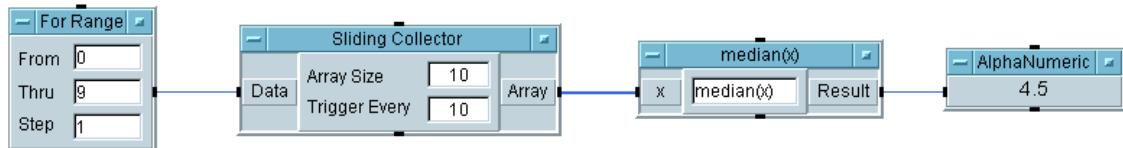

Figure 2-16. Connecting Data Objects
5. Add an AlphaNumeric object, by selecting Display \Rightarrow AlphaNumeric. Connect the objects as shown in Figure 2-16. Run the program. If you have not changed any of the inputs on the objects, you should see the result displayed in Figure 2-16.